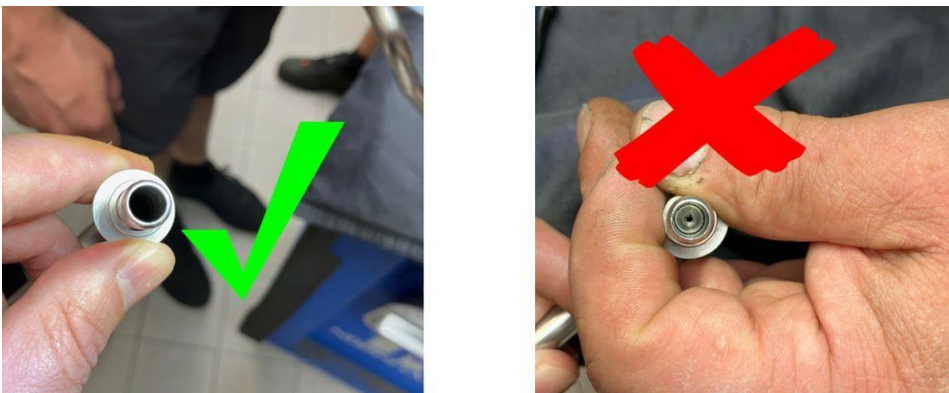

Figure 3
4) Referring to Figure 3 - Check to confirm if the fuel line is blocked/restricted